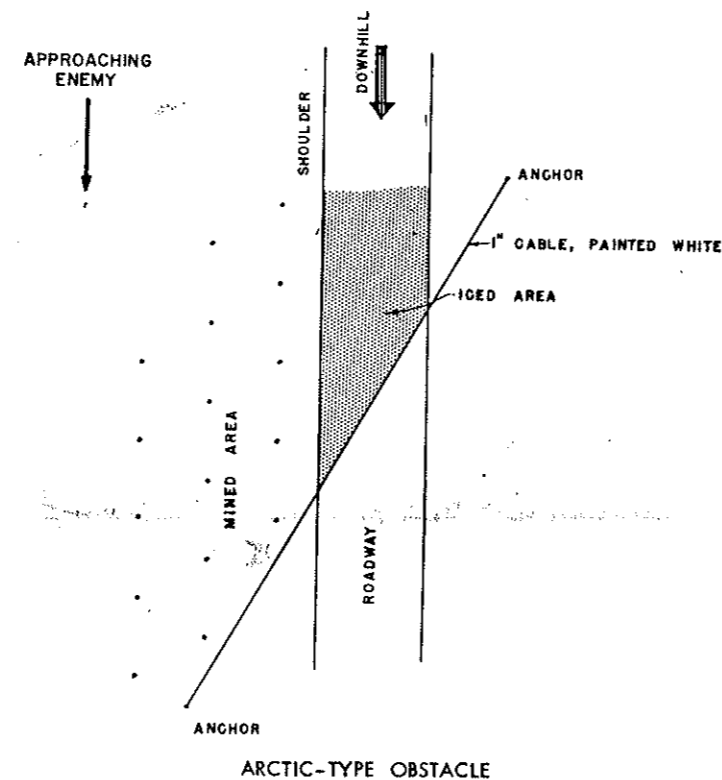

Figure 116.
6. What are the special techniques employed in using, siting, and placing obstacles in the Arctic (fig. 116)?